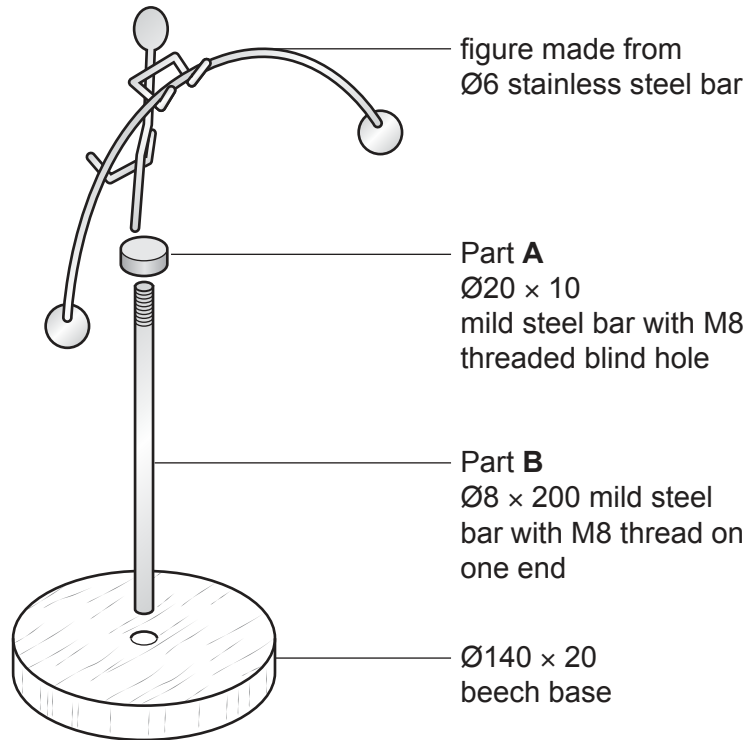

Fig. 1.1
- 1 Fig. 1.1 gives details of a balancing figure which is to be made in a school workshop.